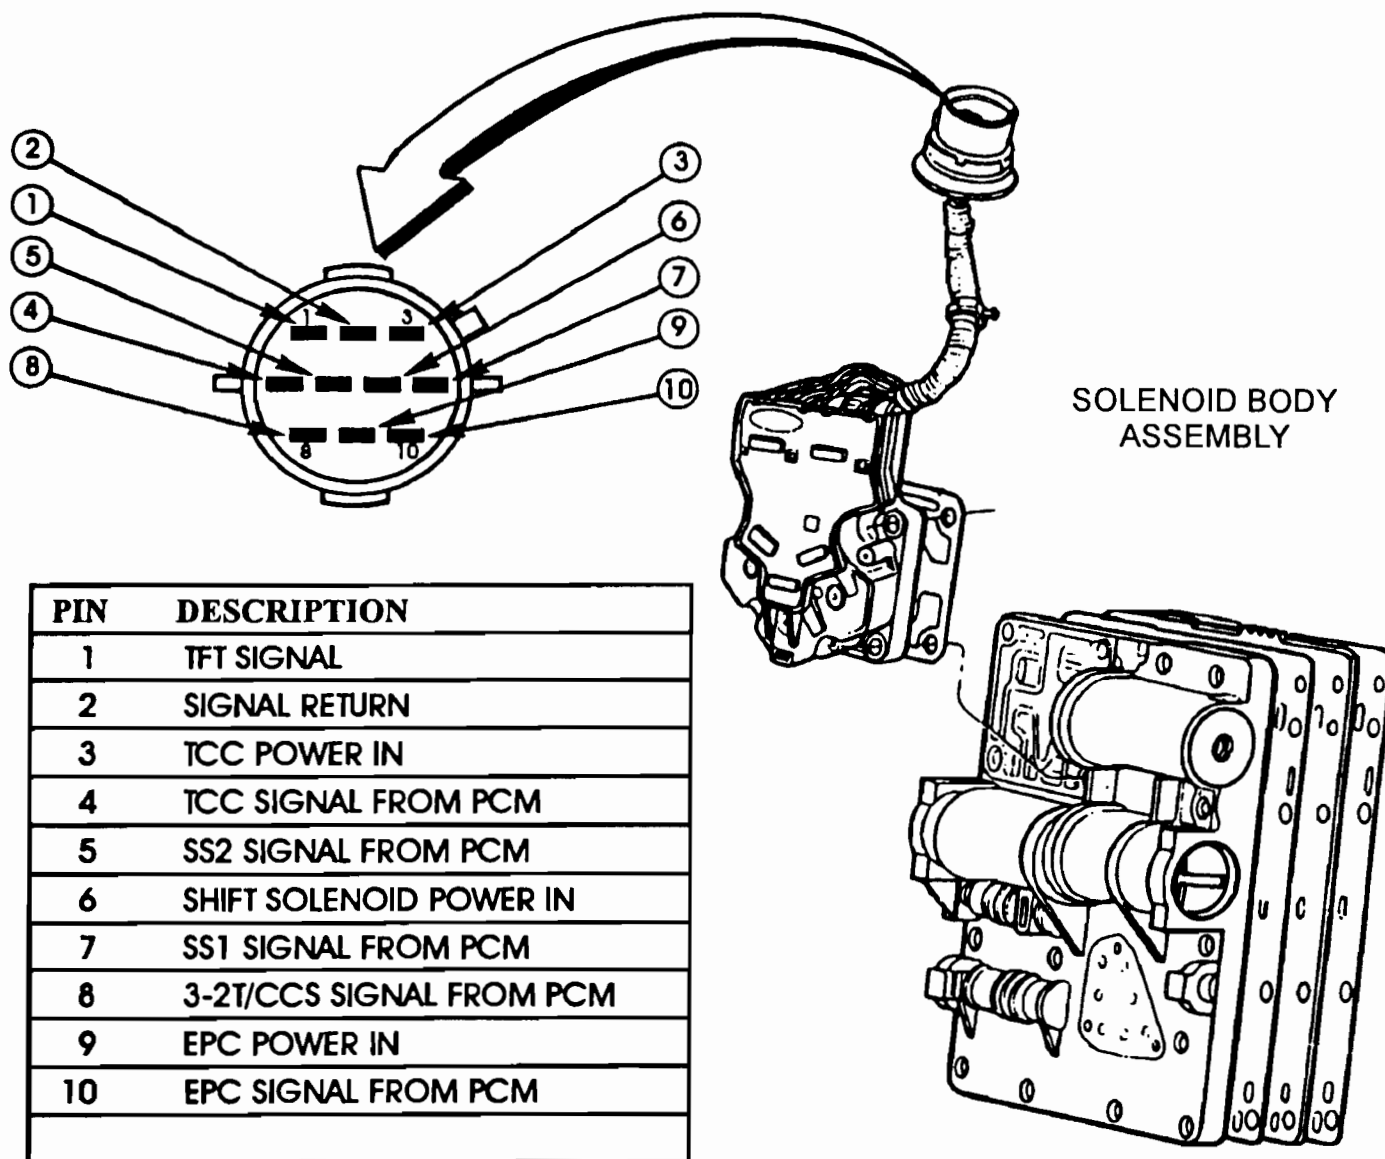

Figure 1
**CORRECTION:** 1993-1995 CD4E transaxles may be serviced with a Solenoid Body Assembly containing **either the high impedance or low impedance** TCC Solenoid, with no adverse effects. The TCC Solenoid resistance can be checked across pins 3 and 4 of the transaxle case connector as shown in Figure 1.